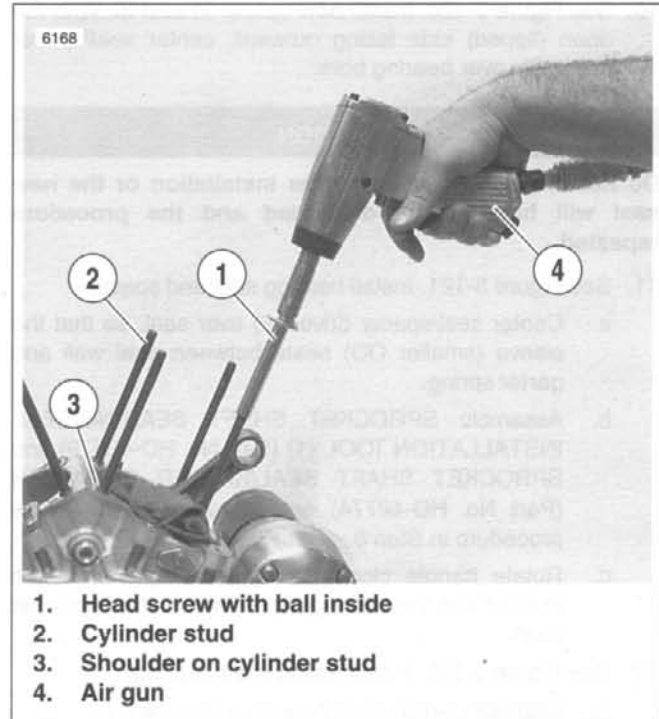

Figure 3-123. Cylinder Studs
14. See Figure 3-123. Install cylinder studs.
- b. Place a steel ball into a head screw (1).
- c. The cylinder studs (2) have a shoulder (3) at the lower end. Place the end of the stud without the shoulder into the head screw.
- d. Install the stud in the crankcase with the shoulder end down. Use an air gun (4) to drive the stud until the shoulder reaches the crankcase.